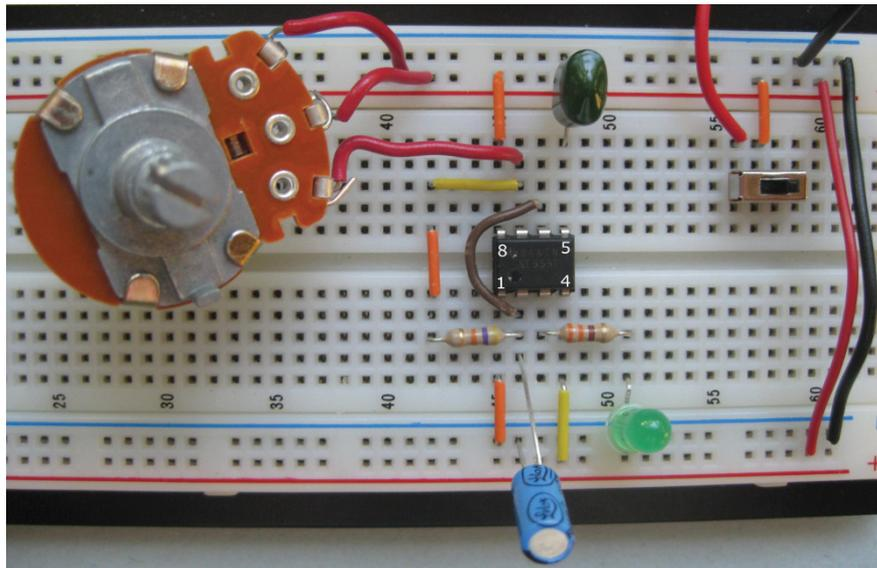

FIGURE 17-2: An LED flasher with parts mounted on a solderless board. (555 timer IC pin labels have been added.)
To see whether the light blinks at about the rate your calculations say it should, build the LED flasher circuit and try it out! Use Figure 17-2 as your guide. If this is the first circuit you're building, you may want to follow the detailed instructions in this section.
You can make it easier to use battery power when you build a circuit on a breadboard using just a switch and a few wires, as shown in Figure 17-2. Use a single-pole, double-throw (SPDT) switch to connect the positive battery terminal to the top positive supply rail (in Chapter 4, I explain this process in detail). Then connect the positive supply rails on top and bottom using a red wire, and the negative supply rails on top and bottom using a black wire, so that power is available on both the top and the bottom of the board.
3. Insert the two fixed resistors, $R2$ and $R3$, into the board, following the schematic and the sample breadboard in Figure 17-2.
Insert the two capacitors, $C1$ and $C2$, into the board, following the schematic and the sample breadboard in Figure 17-2.
As noted in Chapter 11, the pins on IC chips are numbered counter-clockwise, starting at the clocking notch. If you’ve placed the 555 timer IC with the clocking notch facing the left side of the board, the pin connections are as shown in Figure 17-2.
Use the sample breadboard shown in Figure 17-2 as a guide to making these jumper-wire connections.